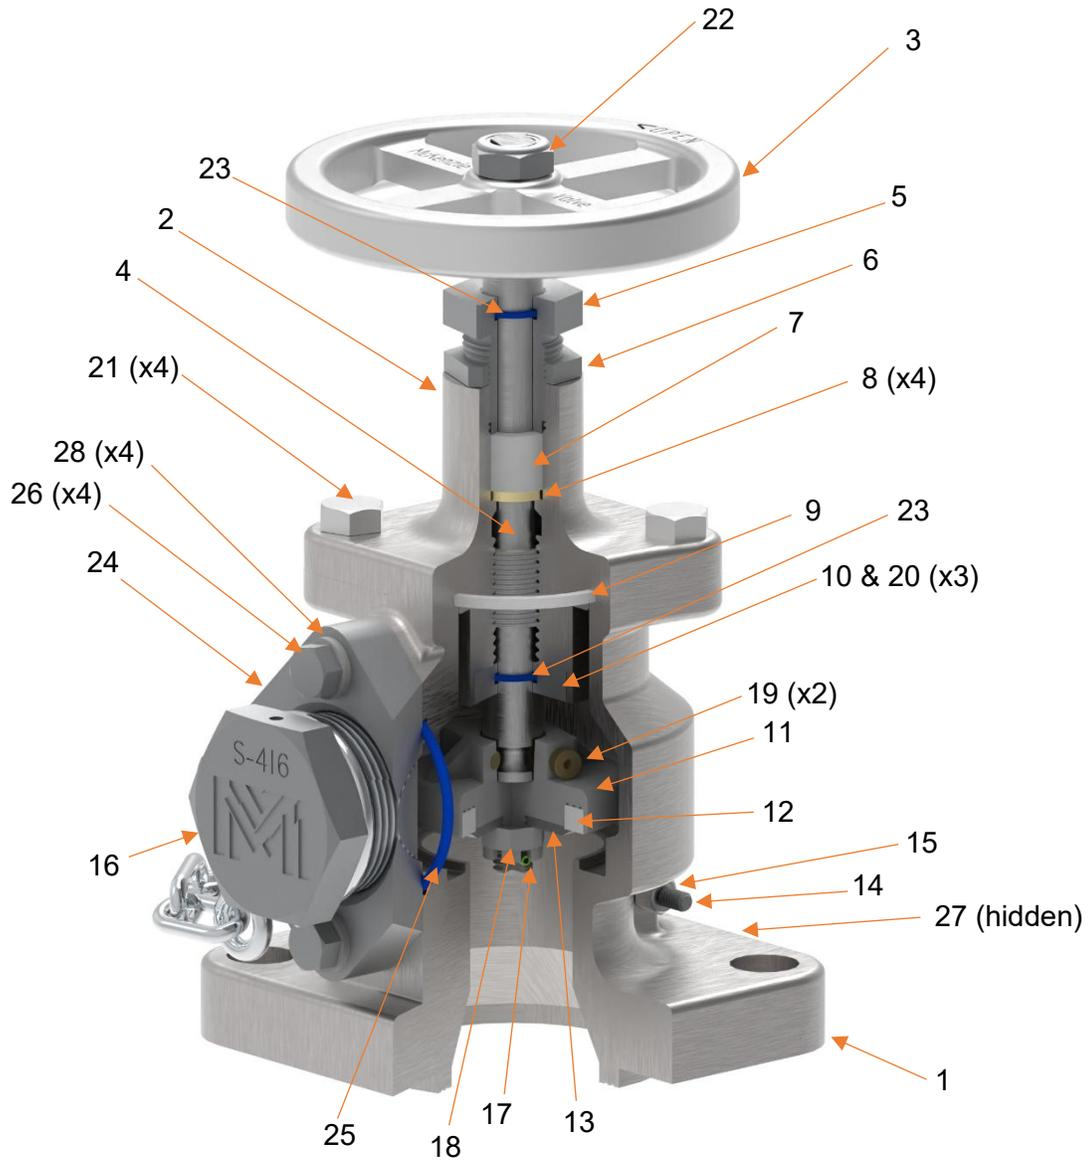

Figure 1 - 2" Rising Stem Angle Valve Component Symbols
4.1. The McKenzie 2" RSV is shown in Figure 1 and the components are listed in Table 1.